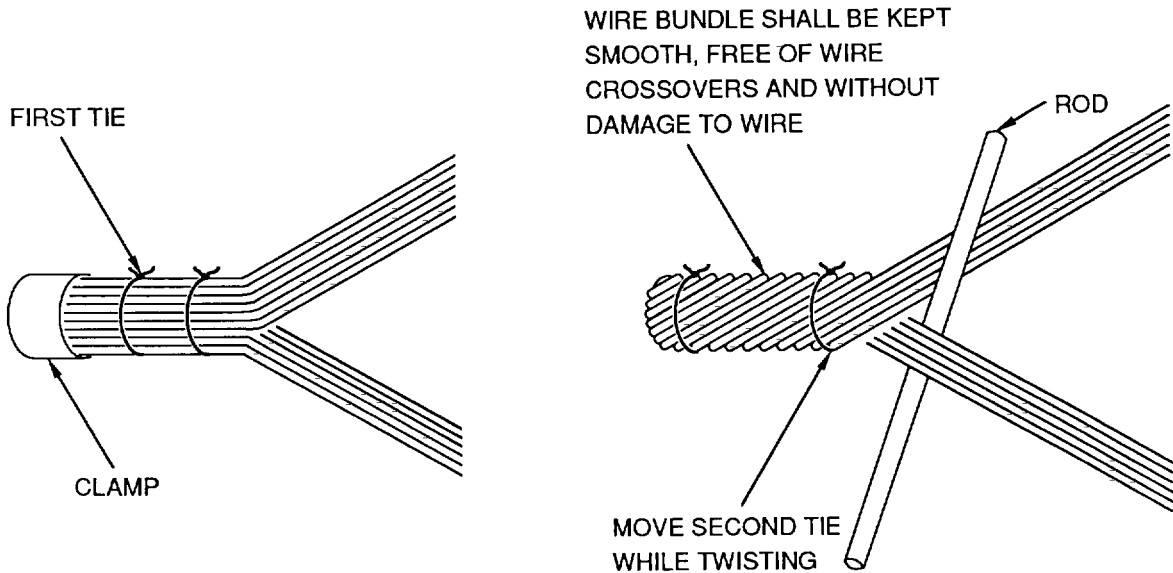

Figure 1. Bunch Twist Wire Bundle
- d. Separate bundle into two equal groups and using a rod (such as a soldering aid) to maintain separation twist two groups (Figure 1).